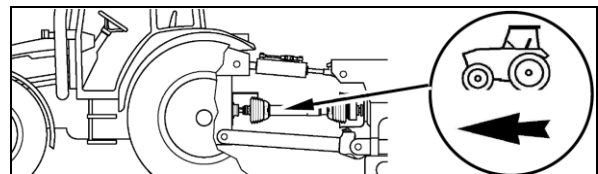

Fig. 92
4. Slip the locking mechanism of the propeller shaft half with the tractor symbol (Fig. 92) on the protective tube onto the p.t.o. shaft of the tractor until the locking mechanism noticeably engages.